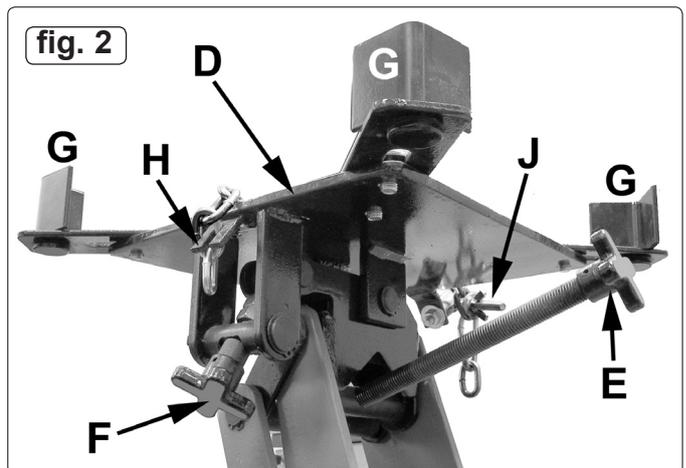

fig. 2
Adjusting the pitch and tilt of saddle will assist you to safely support and transport the gearbox. The saddle (fig.2 item 'D') may be tilted forward 65°, backward 10° by turning handle (E) and tilted 12° to the left or right by turning handle (F).
- 4.3.7. Turn tilt handles (fig.2. E & F) for final positioning of the saddle.
- 4.3.8. Position the saddle attachments correctly for further security. See fig.2 (G).
- 4.5.1. Ensure the jack saddle is fully lowered, then secure the load by placing the support chain over the transmission. Hook the loose end of the chain into the slotted tag on the side of the saddle plate. See fig.2(H). Tighten the wing nut on the hook at the other end of the chain. See fig.2(J).